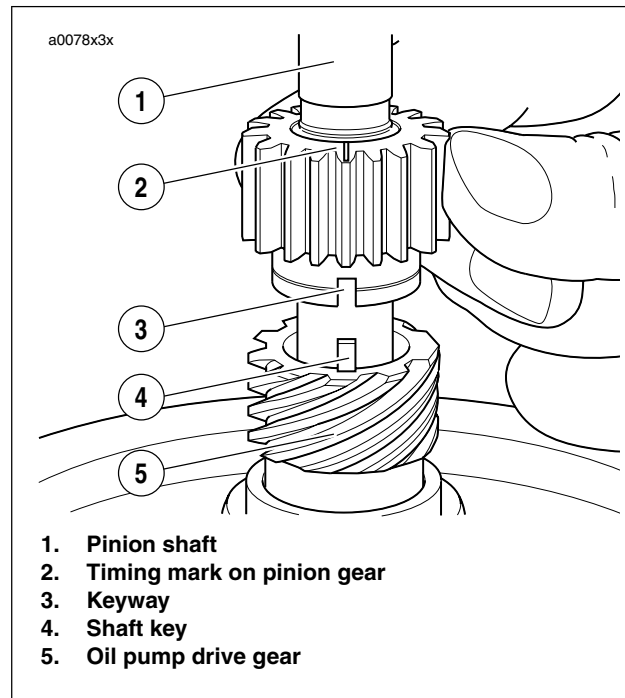

Figure 3-129. Aligning Pinion Gear
1. See Figure 3-129. Install oil pump drive gear and pinion gear on pinion shaft.